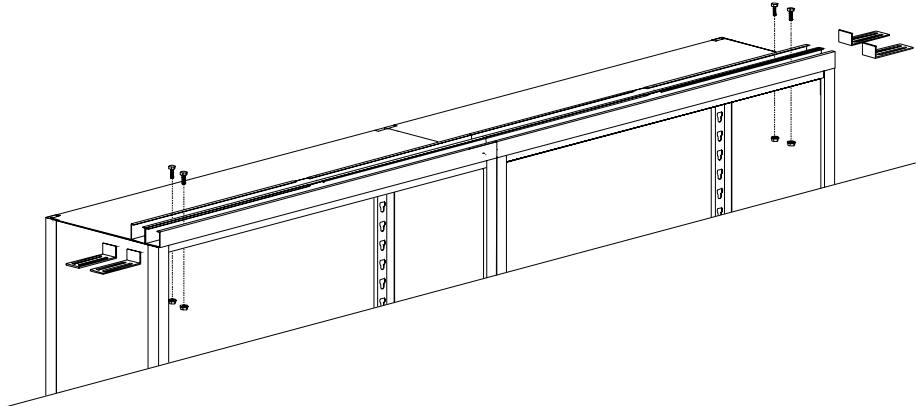

FIGURE 21
STEP 1.2 If the system has more than one carriage, remove two (2) 1/4 -20 x 3/4 hex head bolts from the far left and two (2) from the far right sides of the Stationary Top Channels. Insert four (4) Top Safety Stops to each far ends of all the Stationary Top Channels. Re-install and tighten the 1/4 -20 x 3/4 hex head bolts. **See Figure 21.**
STEP 2 Peel protective backing on adhesive on two (2) Rubber Bumper squares. Adhere to Bumpers to each Side to Side Carriage. One pair of Bumpers is needed for between Carriages.